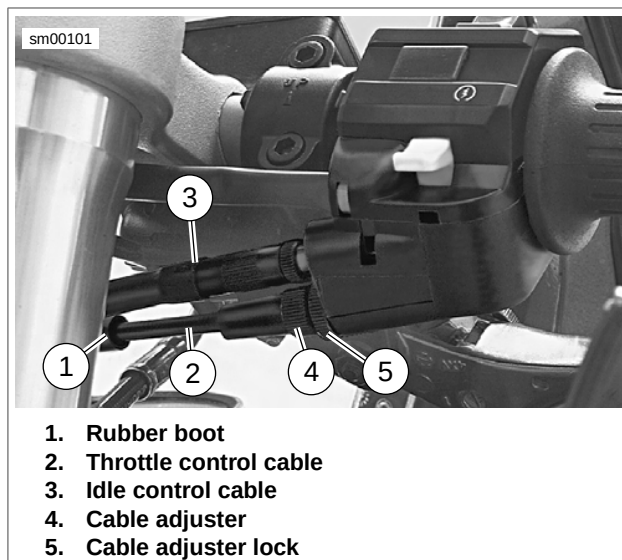

Figure 1-44. Throttle Cable Adjuster
1. See Figure 1-44. Loosen cable adjuster lock (5) on each cable.
2. Turn adjusters (4) in direction which will shorten cable housings to minimum length.
4. Turn adjuster on throttle control cable (2) until throttle cam stop touches stop plate. Tighten cable adjuster lock (5) on throttle control cable adjuster; release throttle control grip.
5. Turn handlebars fully to right. Turn adjuster on idle control cable (3) until end of cable housing just touches the cable guide.